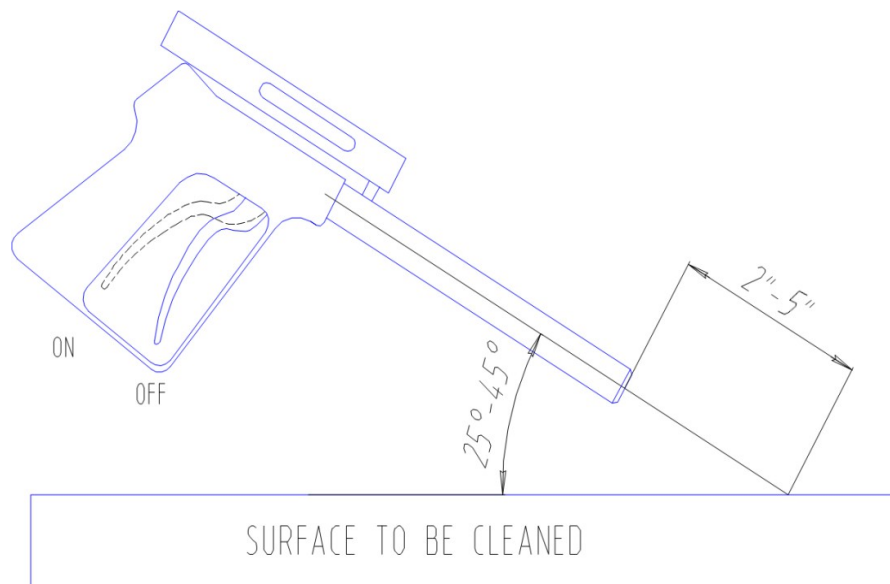

Figure 5.2 – Zero-Thrust Gun Position for Best Results
The pressure at the nozzle of the zero-thrust gun must be maintained within certain limits to achieve cavitation and for best performance results. Using a calibration pressure gauge tool situated between the pressure hose and the CaviBlaster zero-thrust gun, (See **Figure 5.2**) the water pressure should be 4,000-PSI (276 BAR) with the gun submerged and the gun trigger in the open or “ON” position. For best results, repeat this calibration procedure if cleaning performance degrades, or every 3 months at a minimum.
A CALIBRATION GAUGE IS RECOMMENDED WITH EVERY UNIT. CONNECT BETWEEN THE MAIN PRESSURE HOSE AND THE WHIP HOSE OR ZERO-THRUST GUN. SEE FIGURE 5.2.
8. Hold the gun tight and observe the calibration gauge (See **Figure 5.2**).